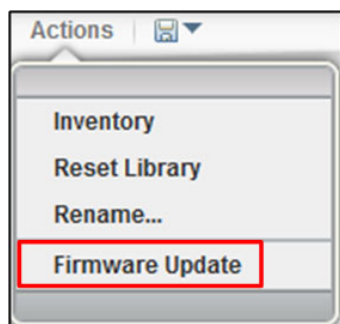

Figure 4-166 Firmware Update
1. From the System page of the TS4500 management GUI, select **Actions** → **Firmware Update**, as shown in Figure 4-166.